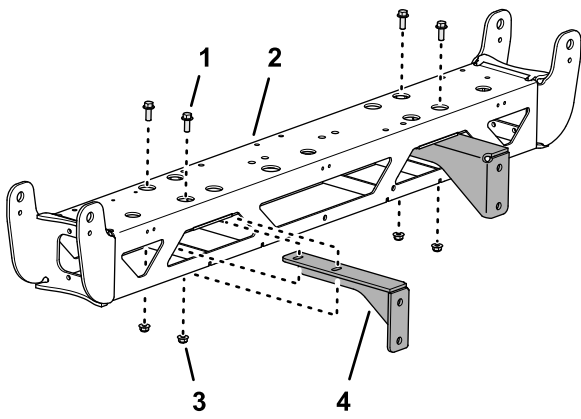

Figure 82
4. Remove the 2 flange-head capscrews (3/8 x 1 inch) and 2 flange locknuts (3/8 inch) that secure the support bracket to the center boom section, and remove the bracket (Figure 82).
5. Repeat step 4 for the other support bracket (Figure 82).